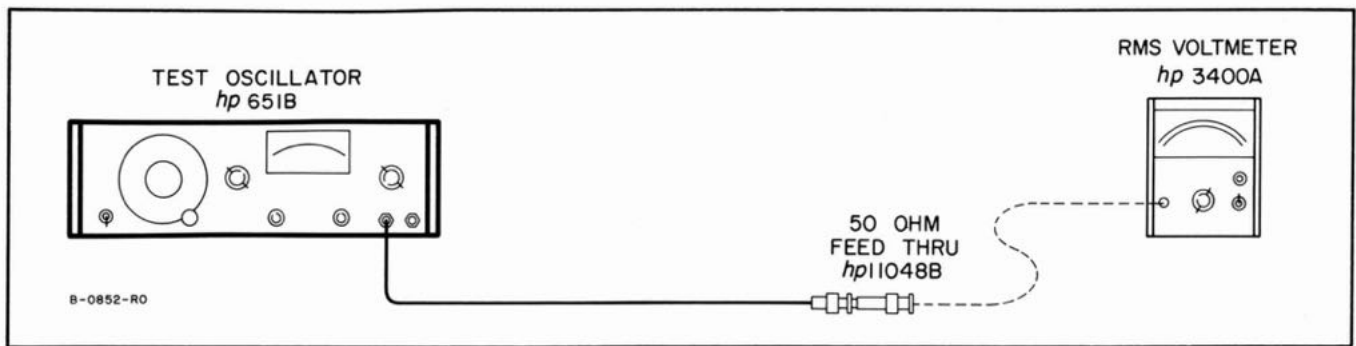

Figure 5-2. Output Monitor, Voltage Check
- a. Connect an RMS voltmeter to 50Ω output terminal of 651B as shown in Figure 5-2. Use an RMS voltmeter with known error.
- a. Connect RMS voltmeter to 50Ω output terminal of 651B as shown in Figure 5-2.